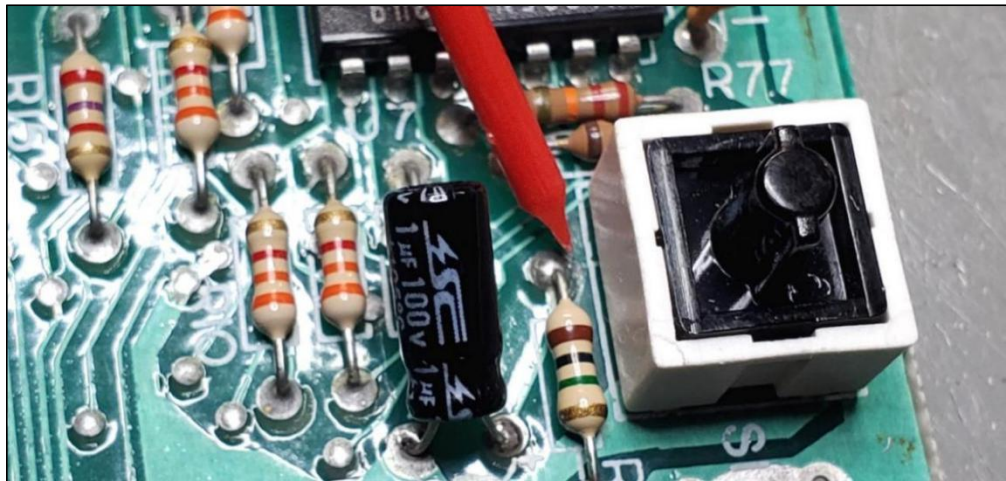
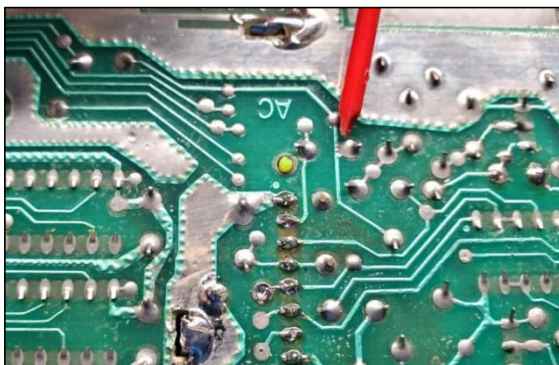

Figure 1: Reset line cut
Figure 2a: Audio line to cut
Step 1: Using an X-Acto knife, very carefully cut the following two PCB traces. See **Figure 1** for reset line cut and **Figures 2a and 2b** for audio line cut.